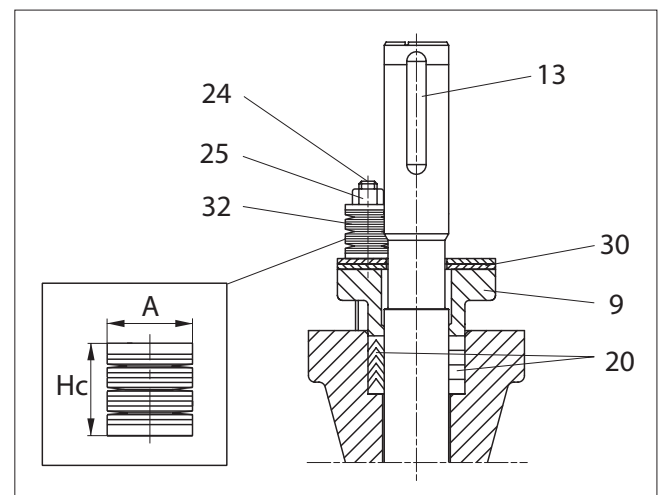
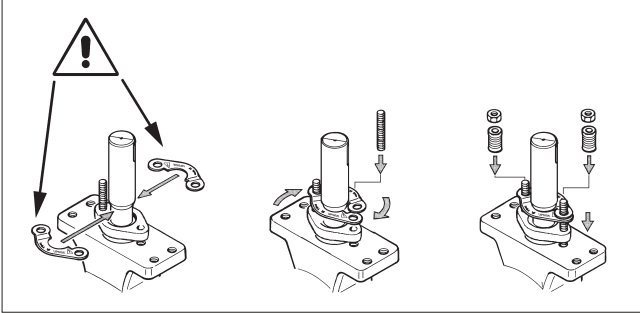

Fig. 17 Gland packing, FL
Fig. 18 Installing the retainer plates
In gland packings, tightness is ensured by the contact between the gland follower and the packing rings. See Fig. 17.
- Remove the key (13).
- Remove the hexagon nuts (25), disc spring sets (32), one stud (24), retaining plates (30) and gland follower (9).
- Remove the packing rings (20) from around the shaft using a knife or some other pointed instrument without scratching the surfaces.
- Place the new packing rings (20) over the shaft (11). The gland follower may be used for pushing the rings into the counterbore. Do not damage packing rings in the shaft keyway. See Fig. 17.
- Deform the packing rings first by tightening the gland nuts (25) without disc springs to the torque T_t , see the value from Table 3.
- Remove the gland nuts and one stud. Mount the retaining plates (30) with the text UPSIDE on top, see Fig. 18, and the removed stud and place the disc spring sets (32) on the gland studs. Tighten the nuts (25) so that the disc springs are compressed to the height H_c , see Table 3. Lock the nuts with locking compound e.g. Loctite 221.